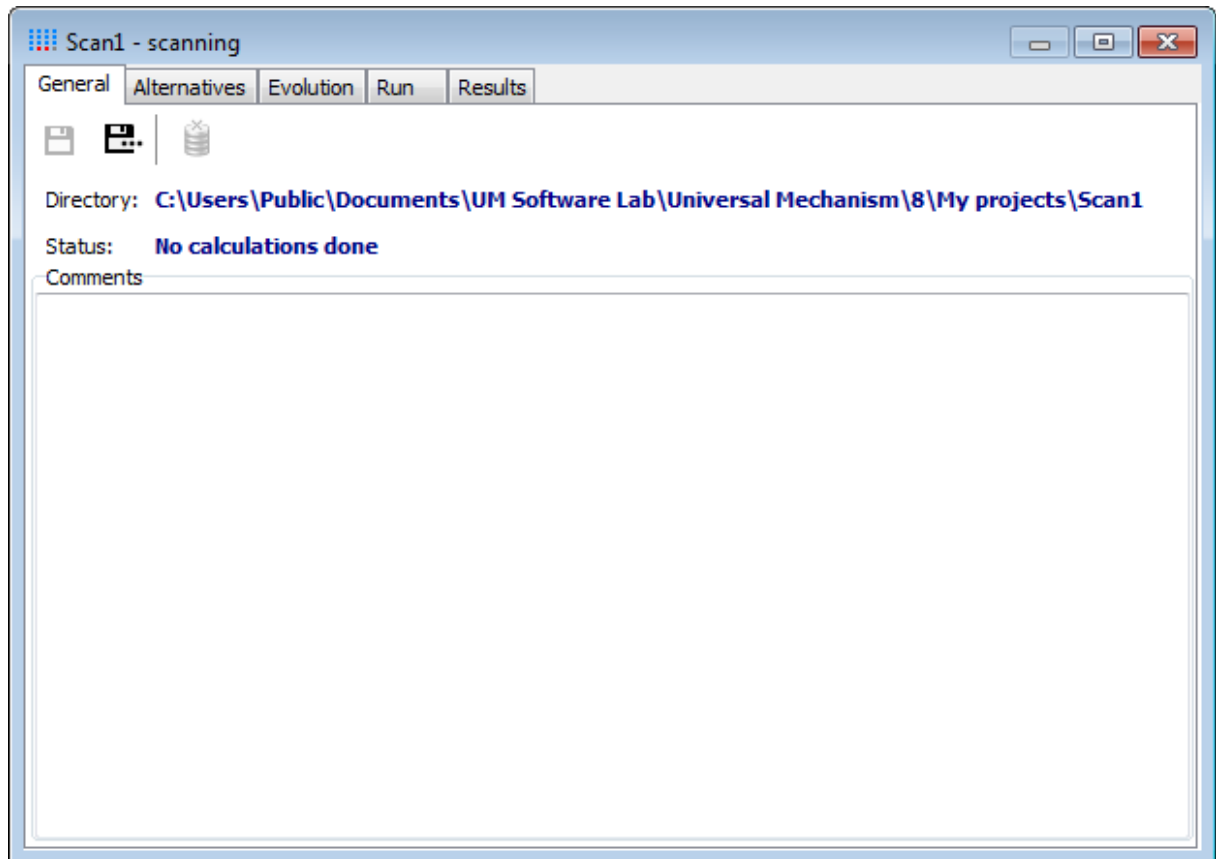

Figure 3.4. New scanning project
3. Press the **OK** button and confirm creation of the new directory. The window of the new project appears, Figure 3.4.